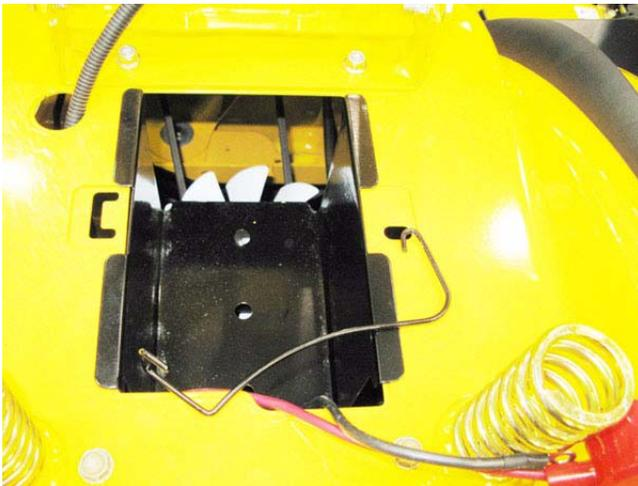

Figure 5.61
2. Remove the battery and battery tray by following the procedures described in Chapter 4: Body Panels. See Figure 5.61.